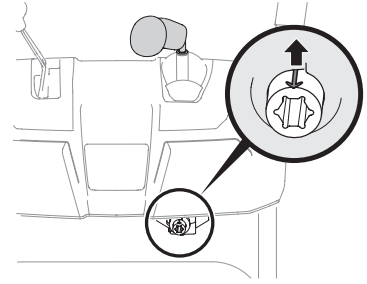

Figure 2-31
5. Rotate joystick to one o'clock position so that indicator arrow on pinion gear below control panel faces upward. See Figure 2-31.